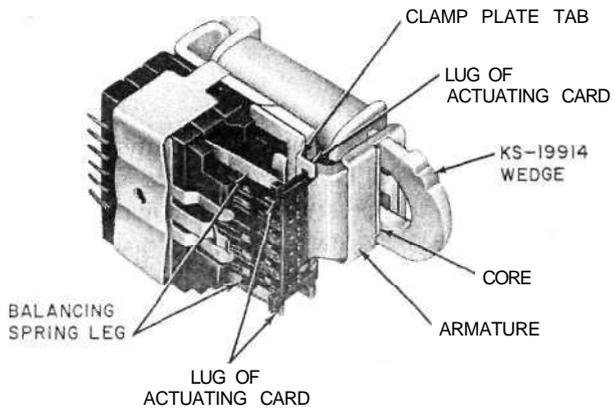

Fig. 11—Blocking BF-, BG-, BJ-, BL-, and BM-Type Miniature Wire-Spring Relays - Operated
**3.09 BF-, BG-, BJ-, BL-, and >BM< - Type Miniature Wire Spring Relays:** Fig. 11 and 12—Block relays operated as covered in (1) and nonoperated as covered in (2) using the KS-19914 wedge. The wedge is a "U" shaped tool having two legs each terminating in beveled edges. In using the tool, the legs are deflected toward each other to permit the outer edge of each leg to pass the backstop side legs.